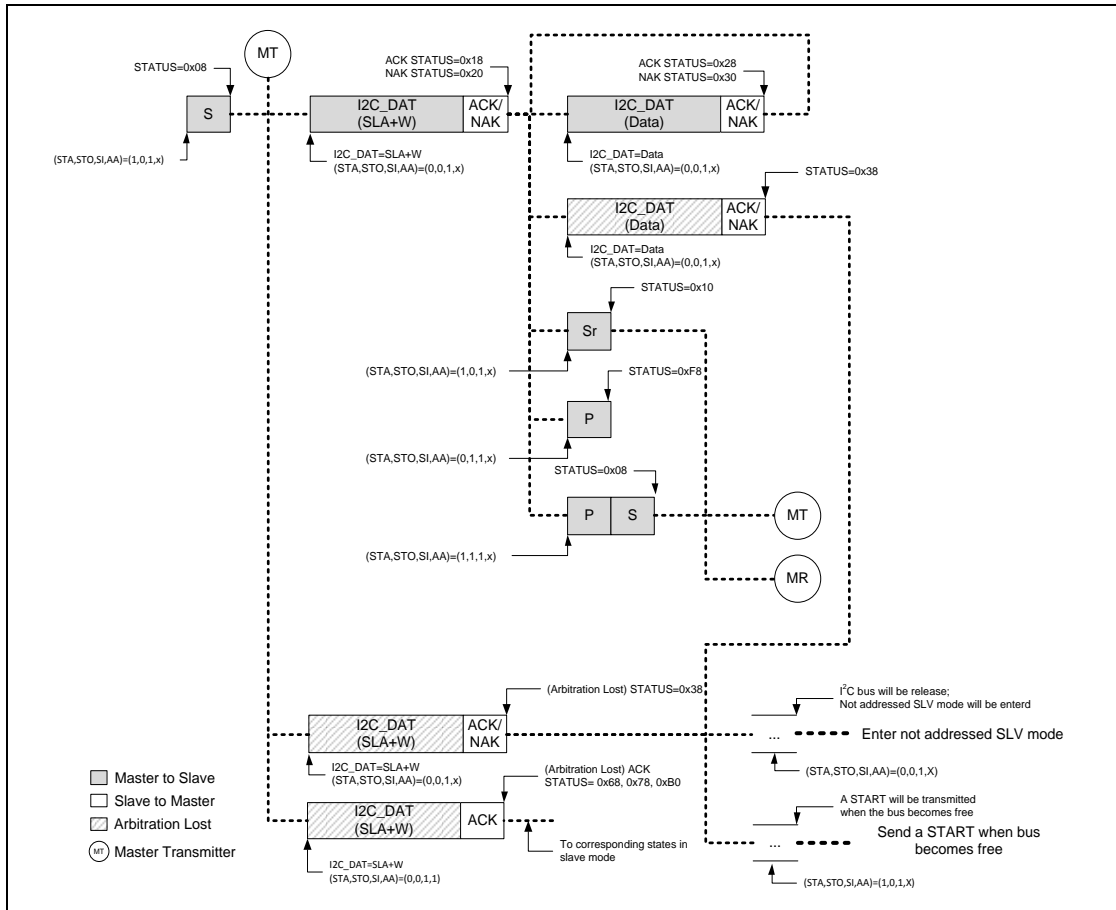
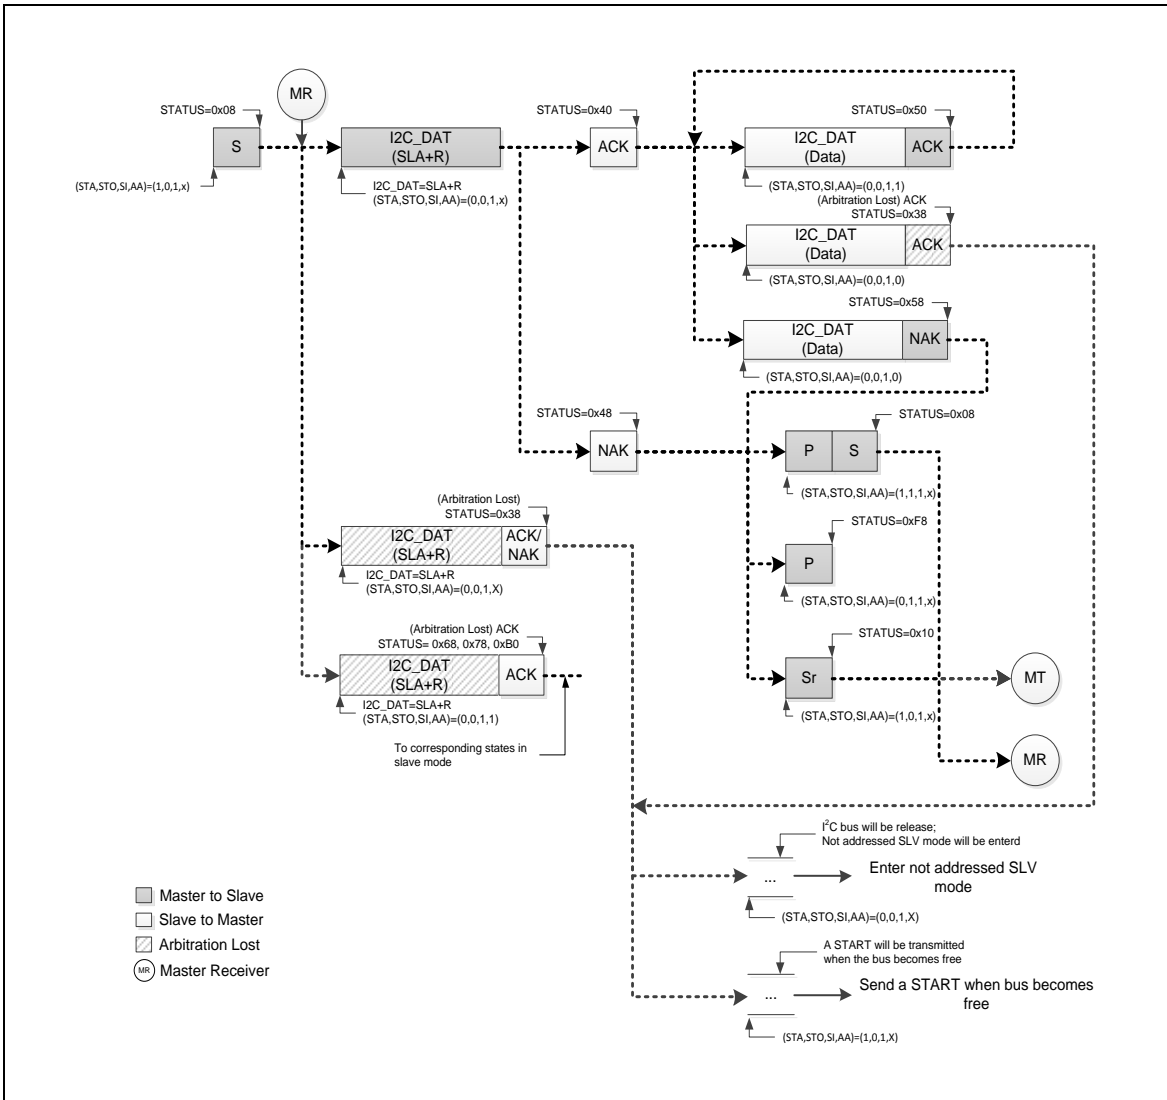

Figure 6.17-10 Master Transmitter Mode Control Flow
Figure 6.17-11 Master Receiver Mode Control Flow
In Figure 6.17-10 and Figure 6.17-11, all possible protocols for I²C master are shown. User needs to follow proper path of the flow to implement required I²C protocol.
mode (Figure 6.17-10) or Master receiver (MR) mode (Figure 6.17-11) after START signal has been sent successfully and new status code would be 0x08. Followed by START signal, user can send slave address, read/write bit, data and Repeat START, STOP to perform I²C protocol.